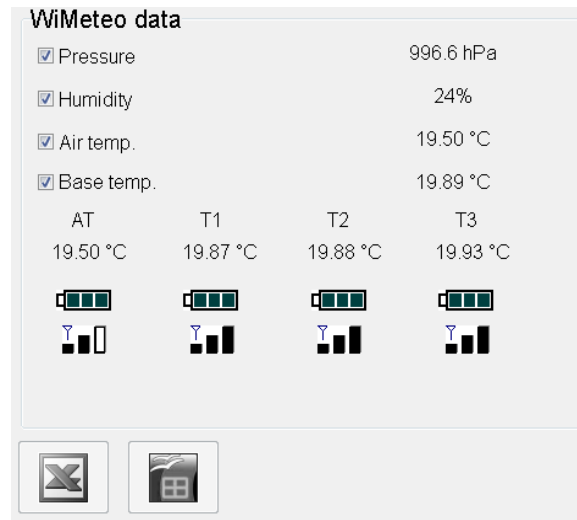

FIG.3.26. ENVIRONEMNTAL PANEL
- Panel **Environment** (figure 3.26) where data obtained from the Environmental Compensation Unit (ECU) is shown. On the screen there are presented: temperature, pressure and humidity of the atmosphere (*Pressure, Humidity, and Air Temp.*) and temperature of the base which is measured by three base temperature sensors and averaged (*Average temp., T1, T2 and T3*). For each sensor the battery voltage and signal strength are presented. Data from Environmental Compensation Unit can be also controlled by the user. It is possible switch off the data coming from ECU and insert parameters of the atmosphere manually. In the lower left corner there are icons setting up a link to Microsoft